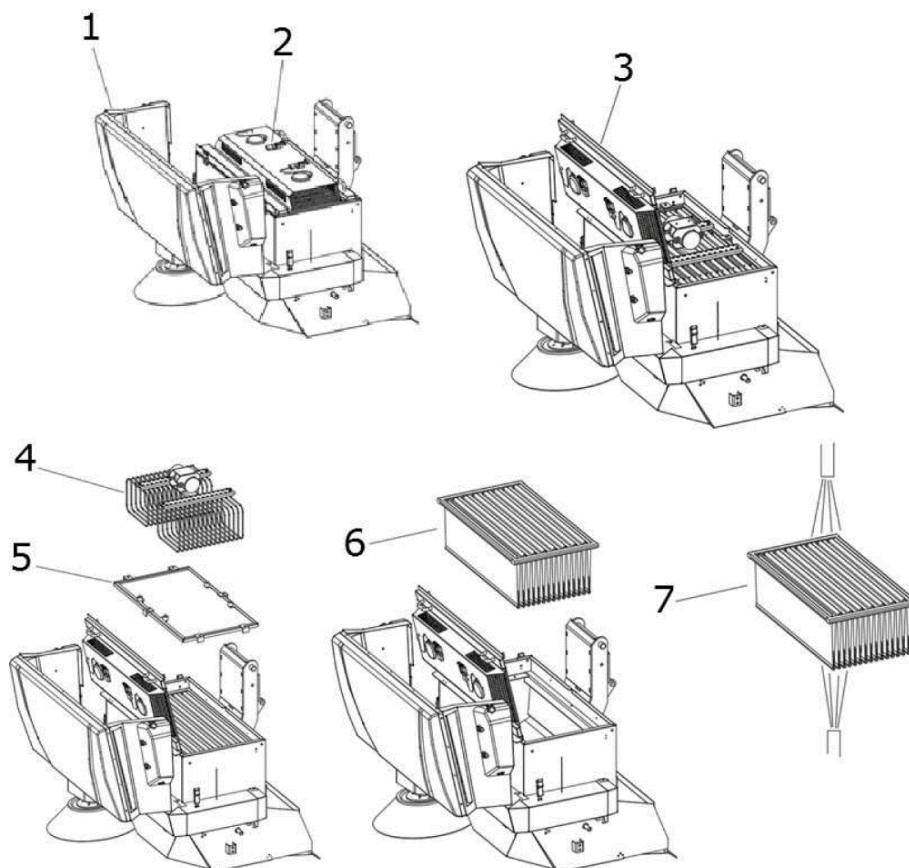

Figure 48
- Open the filter cover **Item 1 Figure 48**;
- disconnect the pins of the suction motors **Item 2 Figure 48**;
- lift the support of the suction motors **Item 3 Figure 48**;
- disassemble the vibrator cage **Item 4 Figure 48**;
- disassemble the filter frame **Item 5 Figure 48**;
- disassemble the filter **Item 6 Figure 48**.
To clean it, first shake it (not violently), then, to clean it thoroughly, with an air gun or similar blow from the outside inside, as illustrated in **Item 7 Figure 48**. When reassembling, make sure that the black seal is always well supported and centred.